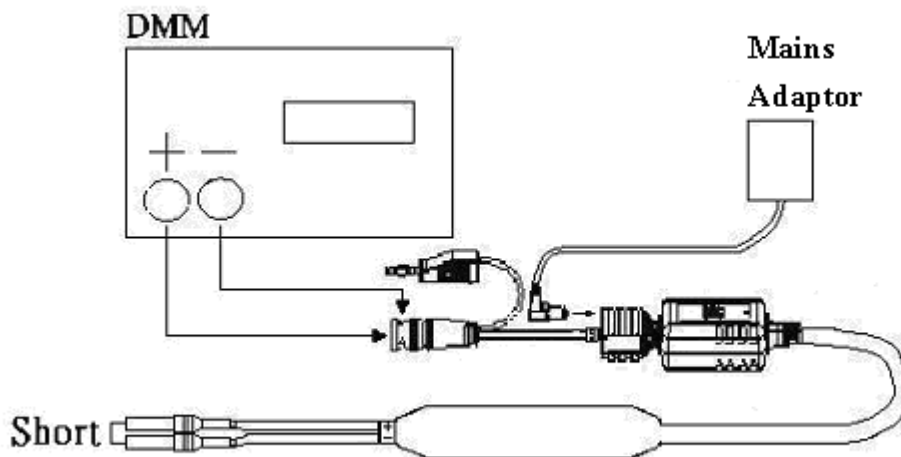

Fig. 4
- C-1. Connect the probe as shown in Fig.4.